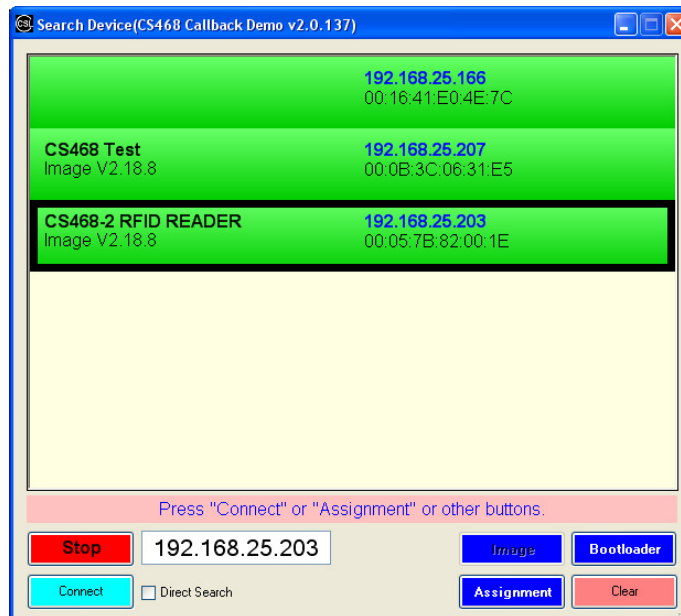

Fig. 5-2. Searching CS468
2. Available CS468 reader on the same subnet will be listed as shown in Fig. 5-2.